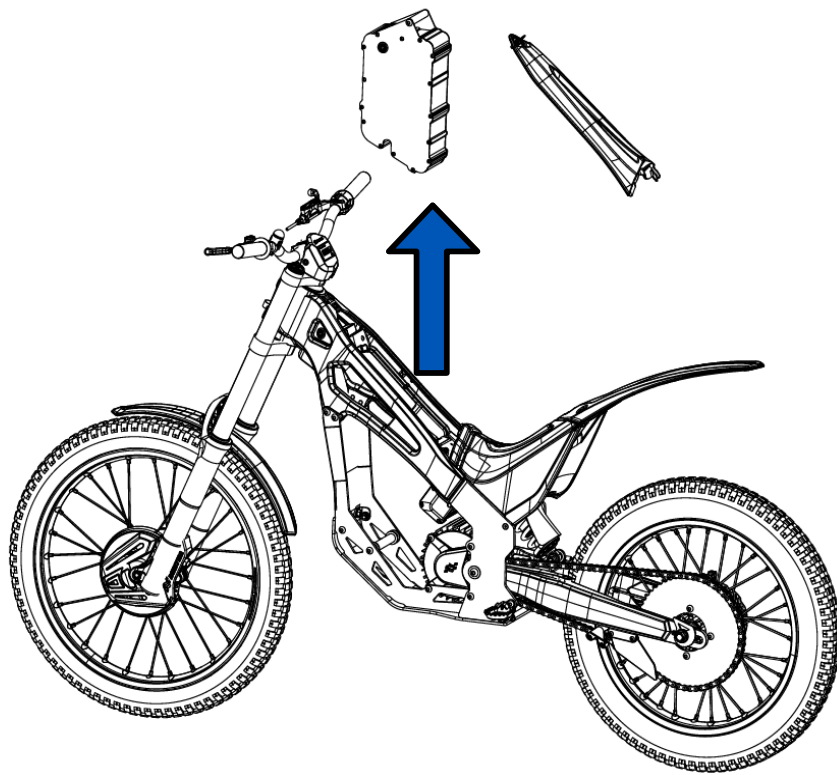

Fig. 38
6- Then remove the battery from the motorcycle (Figure 38).
- 3- Remove the top cover of the motorcycle (Figure 38).